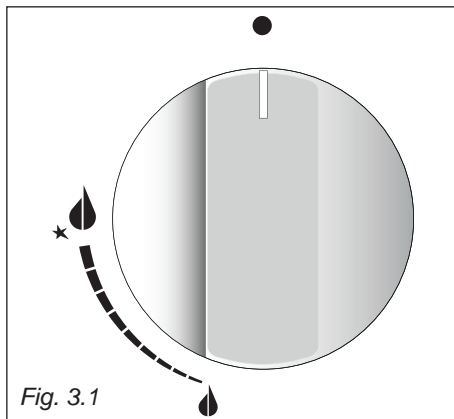
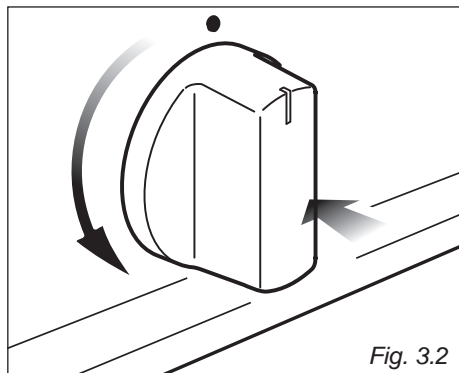

Fig. 3.1
Fig. 3.2
Gas flow to the burners is adjusted by turning the knobs (illustrated in figs. 3.1 - 3.2) which control the safety valves.
1. Press in the corresponding knob and turn counter-clockwise (fig. 3.2) to the full flame position marked by the  symbol (fig. 3.1) and hold the knob in until the flame has been lit.